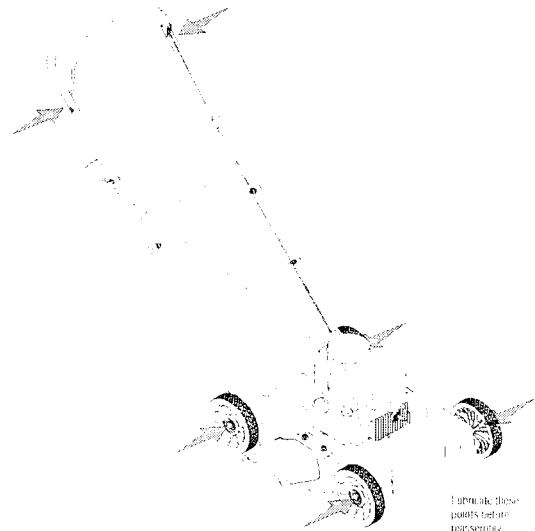

Figure 15: Lubrication areas
(See Figure 15)
- Lubricate the pivot points on the blade control handle at least once a season with light oil. The blade control must operate freely in both directions. See Figure 15.